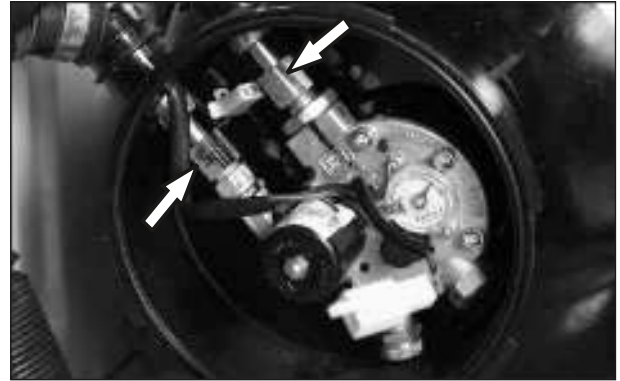

Fig. 7.32
- Loosen and remove the inlet flexible hose and outlet flexible hose from Multifunction valve (Fig. 7.32)